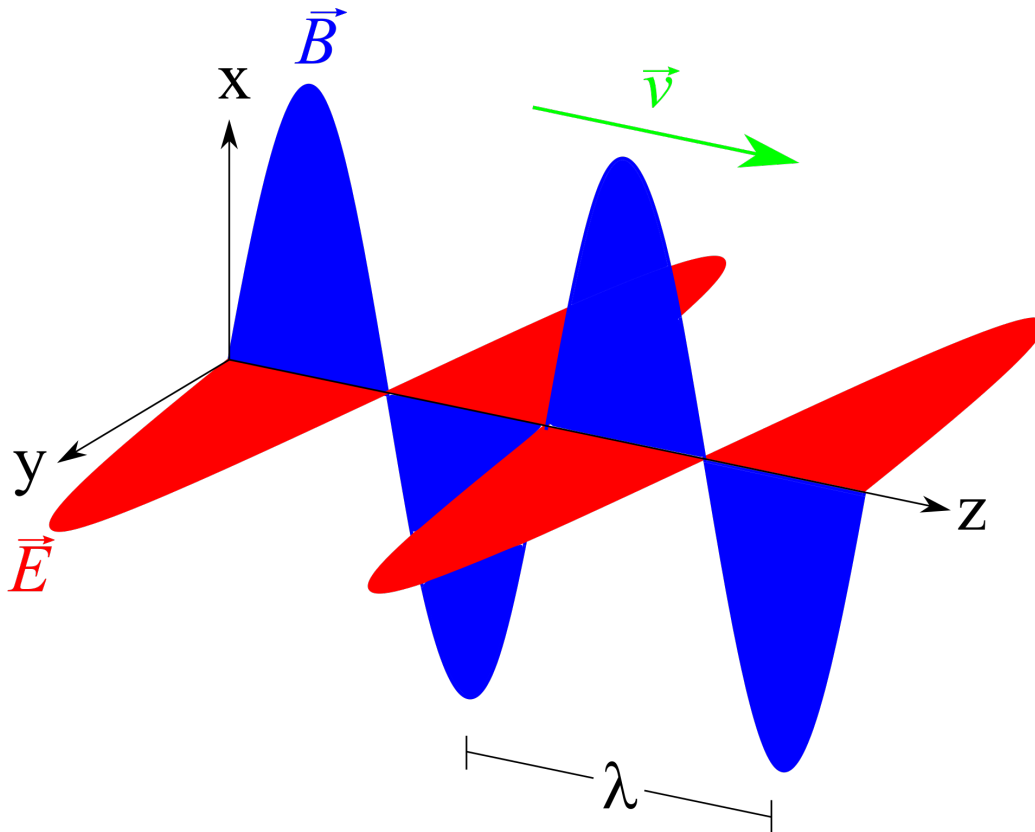

Figure 1: Horizontally-polarized Electromagnetic Plane Wave
Radio-frequency (RF) radiation is one type of electromagnetic radiation. Electromagnetic waves and associated phenomena are discussed in terms of energy, radiation, and fields. Electromagnetic radiation is defined as waves in electric and magnetic fields moving together, or radiating, through space (Figure 1). These waves are generated by the movement of electrical charge. For example, the movement of charge in a radio station antenna creates electromagnetic waves that are radiated away from the antenna. The waves then induce charge motion in the receiving antenna, which is detected and converted into signal by the radio. The term electromagnetic field refers to the electric and magnetic environment existing at some location due to a radiating source such as an antenna.